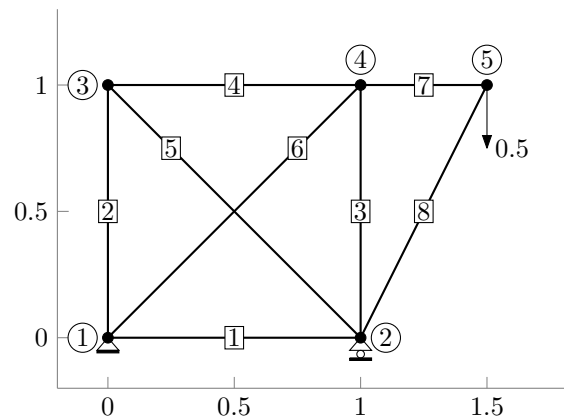

Figure 2: Truss 2
**Problem 5:** (10 points) Use the functions written in Problem 3 to solve for the nodal displacements and reaction forces of Truss 2 (Figure 2). Report the displacements and forces at each node and plot the deformed truss using the function `visualize_truss` provided on the course website. The Young's modulus times the cross-sectional area of each element are:  $EA_e = e$  for  $e = 1, \dots, 8$ . This requires implementing a new function to replace `setup_truss0` that defines the topology, material properties, and boundary conditions of this truss and then passing the resulting variables to your function `solve_dsm_truss`.